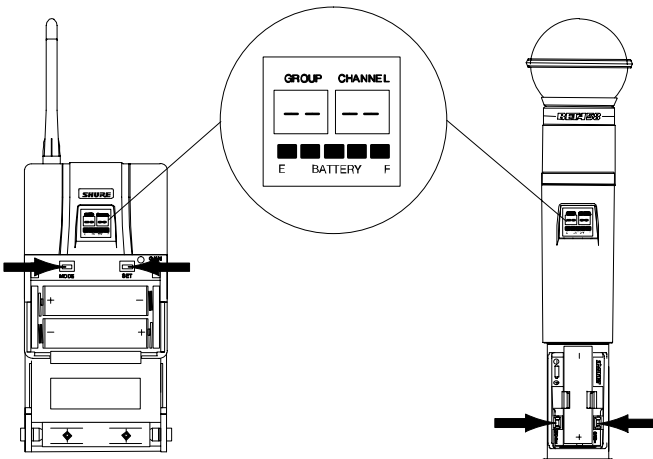

FIGURE 45
3. To verify that the frequency lock function is turned on, press the MODE or SET button. If the lock function is turned on, "--" appears on the transmitter screen, as shown in Figure 45.